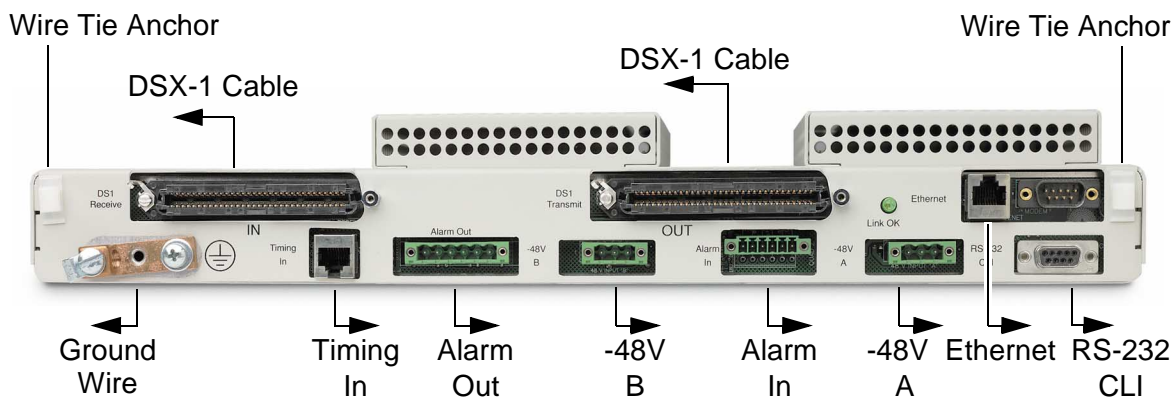

Figure 6-25. Location of Rear Panel Wire Tie Anchors and Connectors
- If desired, use wire tie anchors on rear panel (see Figure 6-25) to secure wires.
- When mounted horizontally, the ground wire and DSX-1 cables are normally dressed toward left side of rack and all other cables and wires are dressed toward right side, as viewed from connector panel (Figure 6-25).